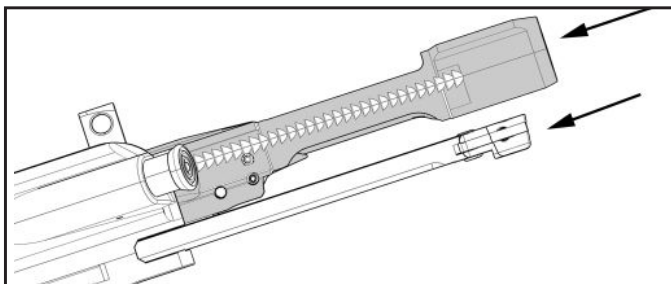

Fig. 63 – Installing the bolt assembly into the upper receiver
- i.. With the upper receiver and charging handle upside down, install the bolt assembly onto the bottom of the charging handle ensuring that the bolt carrier's anvil and the top of the cam pin are centered in the bottom cavity of the charging handle (Fig.63).